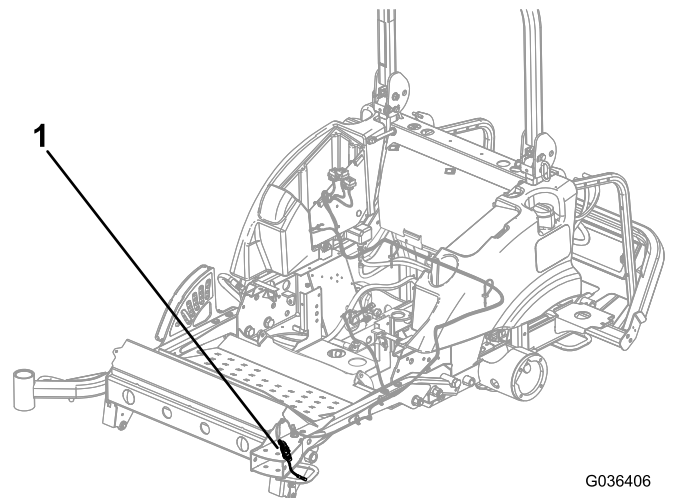

Figure 25
9. Plug the shunt wire harness into the deck wire harness as shown in Figure 25.